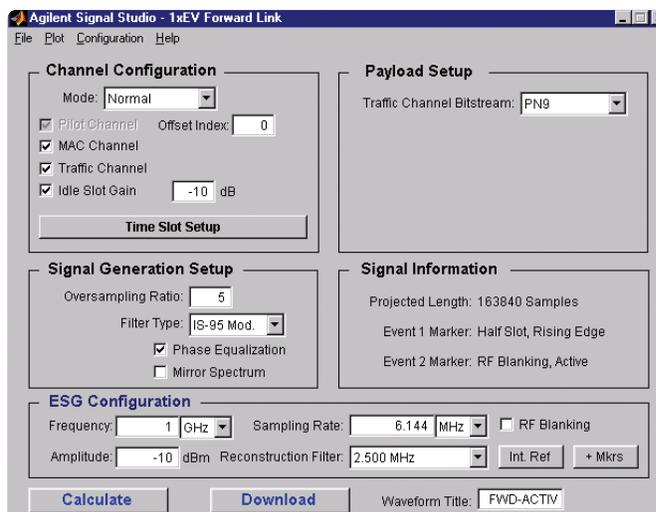

Figure 15. Signal studio setup for generic active slot transmission.
1. Setup the Signal Studio-1xEV forward Link for active slot transmission as shown in figure 15.